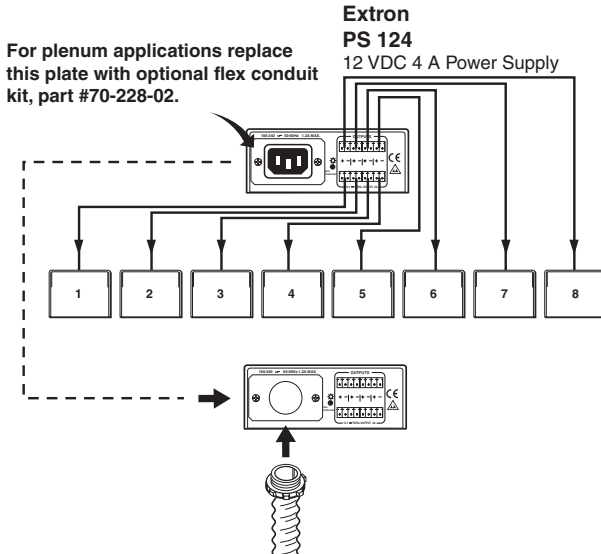
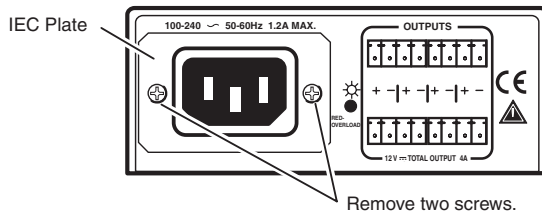

Figure 2 — Using the conduit option
Figure 4 — Removing the IEC plate
- ② IEC connector/power supply — Plug the IEC cord into this connector and a 100–240 VAC source.
- OR- ③ Optional conduit adapter plate — The IEC connector and adapter plate can be replaced by this half-inch conduit EMT (Electrical Metallic Tubing) adapter plate, as shown in figure 2. See “Input power — using the Flexible Conduit Adapter Kit,” on page 4.
2. Remove and retain the two Phillips head screws that secure the **IEC plate** (figure 4, below) to the PS 124 rear panel.
7. From the rear panel end, pull the IEC connector (see figure 4) out of the enclosure.
9. Install the **EMT adapter plate** (figure 2) into the opening. Use the Phillips head screws removed in step 2 (figure 4) to attach the adapter plate.